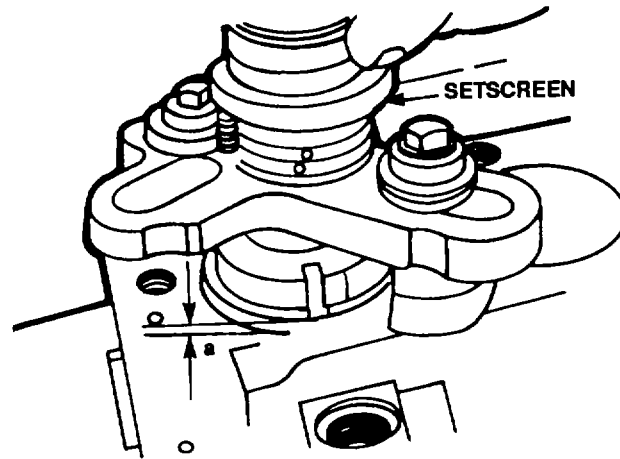

Figure 5-66. Setting the Refacing Tool
6. Turn back the knurled nut until the cutter is positioned freely above the face to be reworked, distance a (figure 5-66).
9. After adjusting, secure the device by means of the setscrew (figure 5-66).